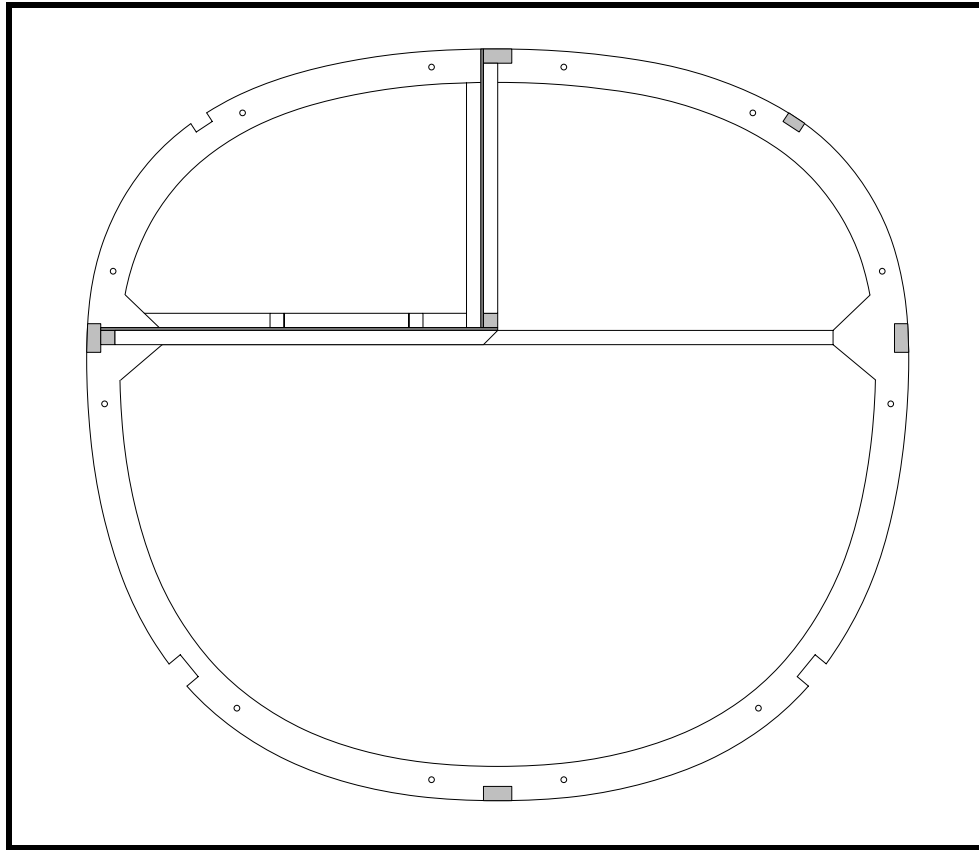

Figure 39
- ❑ Fit and install the 15x15 gluing strip on the battery box floor at frame 8. See Figure 39.